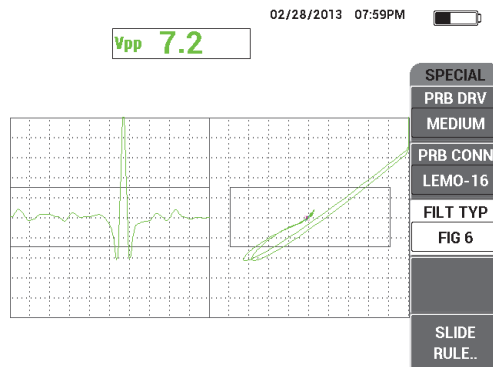

Figure 5-64 The Figure 6 filter
5. Press the MAIN FILTER menu key (), and then change the **FILT TYP** (C key) to **FIG 6** (see Figure 5-64 on page 174).